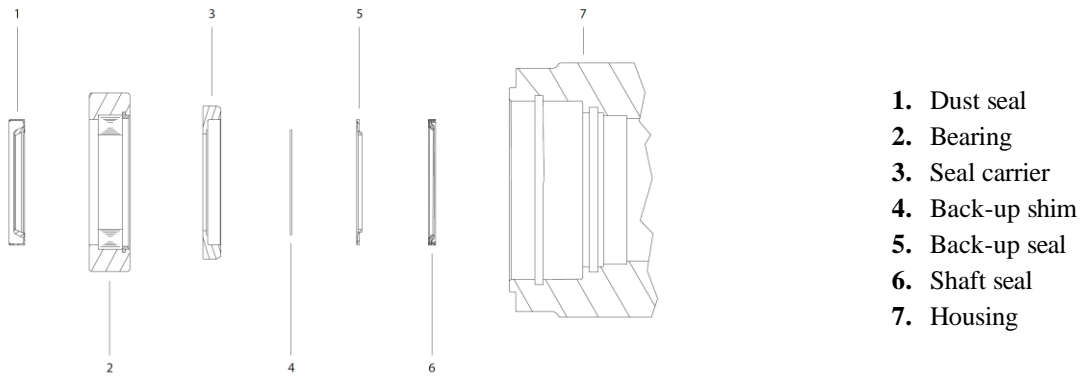

Figure 2: RE 530 A Mount Shaft Stack-up
8. Install high pressure seal (2) into groove in pilot of housing (14). Place shaft on a clean, flat surface with output end facing up. Place thrust washer (12), thrust bearing (13) and second thrust washer (12) over shaft (26). Being careful not to cut seal on keyway, place shaft seal (5) over shaft (26) making sure that lip on seal faces down (see figure 2). Repeat process for backup seal (4) making sure that lip faces down. Place metal backup shim (3) over shaft (26). With flat side facing up, place seal carrier (11) down over shaft. Using an arbor press, carefully press down on seal carrier (11) to press seal assembly (3-5) into seal carrier (11). Lightly grease bearing (10) if needed. Place bearing (10) over shaft making sure that side of bearing with snap ring against bearing rolls faces down.
9. Place shaft (26) assembly into housing (14). Install dust seal (1) over shaft (26) with lip facing up and carefully press the seal down to seat it in the bearing (10). Install retaining snap ring (9) into groove in housing pilot (14). (Note: It may be necessary to lightly tap the retaining snap ring (9) to allow it to seat properly.) Replace all shaft related components (i.e. keys, wire rings, nuts).